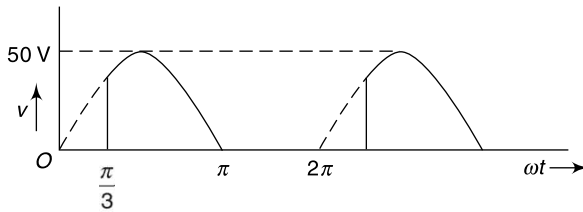

Fig. 5.63 Wave form for Ex. 5.88
5.88 Find the average and rms value of the waveform shown in Fig. 5.63.